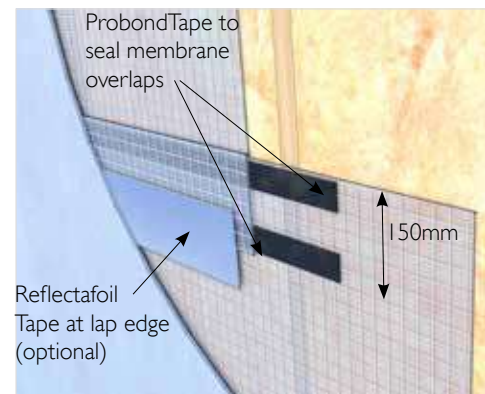

Fig. 2: Lap joint detail with Probond Tape
2. Install the VCL horizontally or vertically in an even manner ensuring the membrane is flat against the substrate and without wrinkles. If installing horizontally, work from bottom to top to ensure overlaps are shingled (Fig.2).
3. Vertical and horizontal overlaps should be min. 150mm. Seal between overlaps with Probond Tape (Fig.2). Note: For membranes with integrated tape, see Figs.5&7.